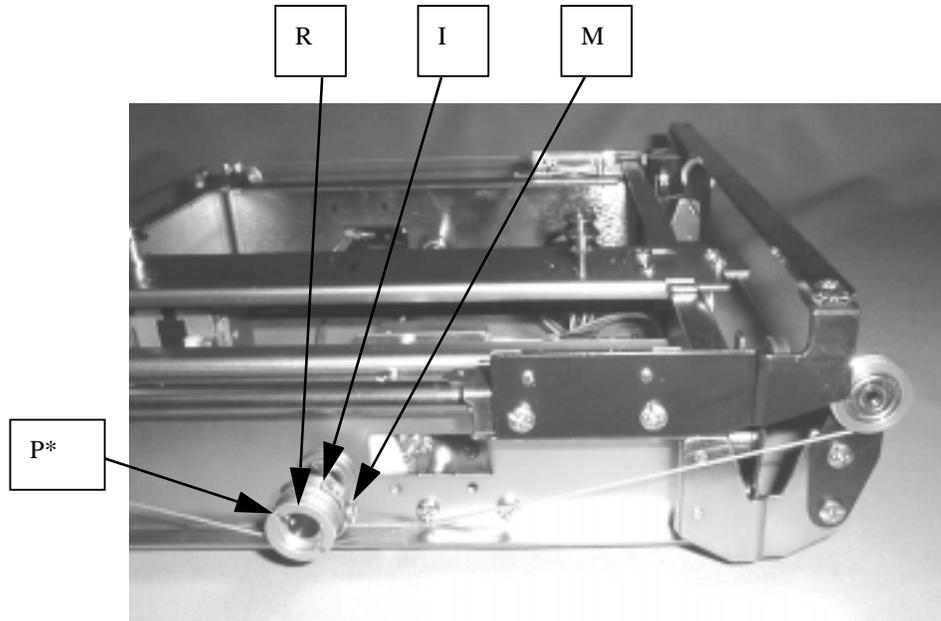

FIGURE 16-7
11. Put ball (R) mounted at the wire tip into the spot-faced hole which is the same phase as cut (P\*) as shown in Fig.16-7. Set the protrusion of the wire holder (I) to meet the other spot-faced hole, and fix the wire holder (I) by setscrew (M).